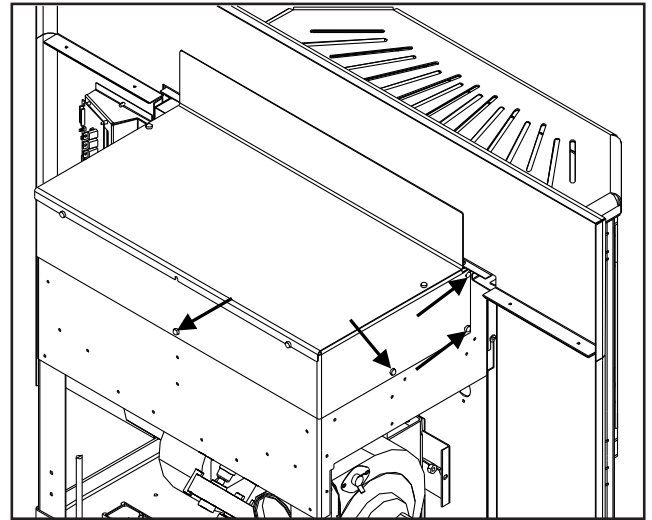

Figure 11: Hopper Extension Screw Placement.
To change the height of the hopper back up or down, remove the seven (7) T-20 screws, three (3) on each side and one (1) on the back. The screw placement is shown Figure 11. Move the hopper assembly to the required setting and replace the screws. When the hopper back is in place it is recommended that silicone is used to seal the bottom lip of the hopper back and sides